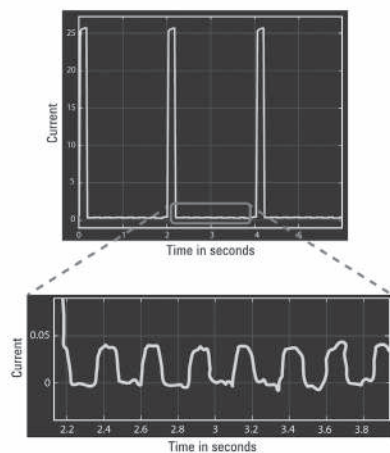

Figure 1. Dynamic current measurement
- Accurately capture dynamic current profiles: APS has two current measurement ranges that allow it to measure micro-amps to amps. The APS uses seamless ranging technology to transition from one measurement range to the other without discontinuities in the output power or in measurement data. (See figure 1)